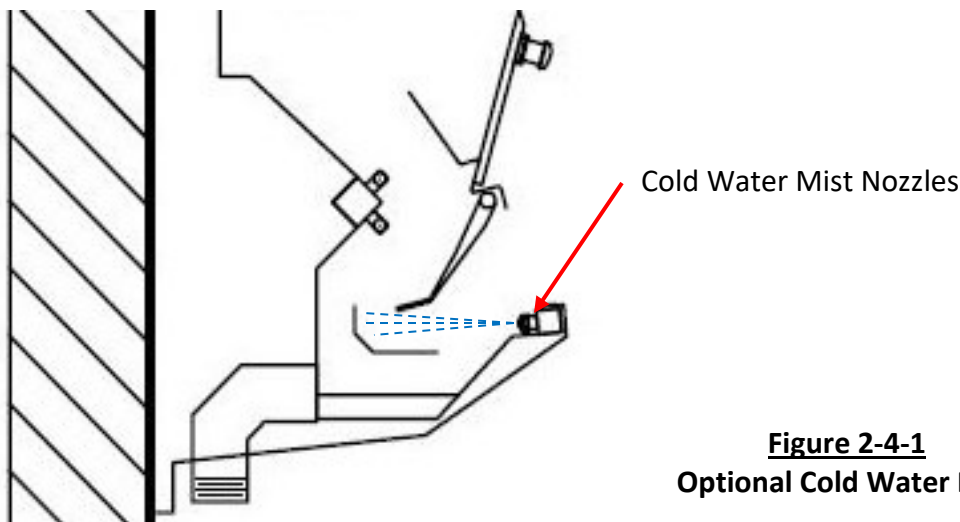
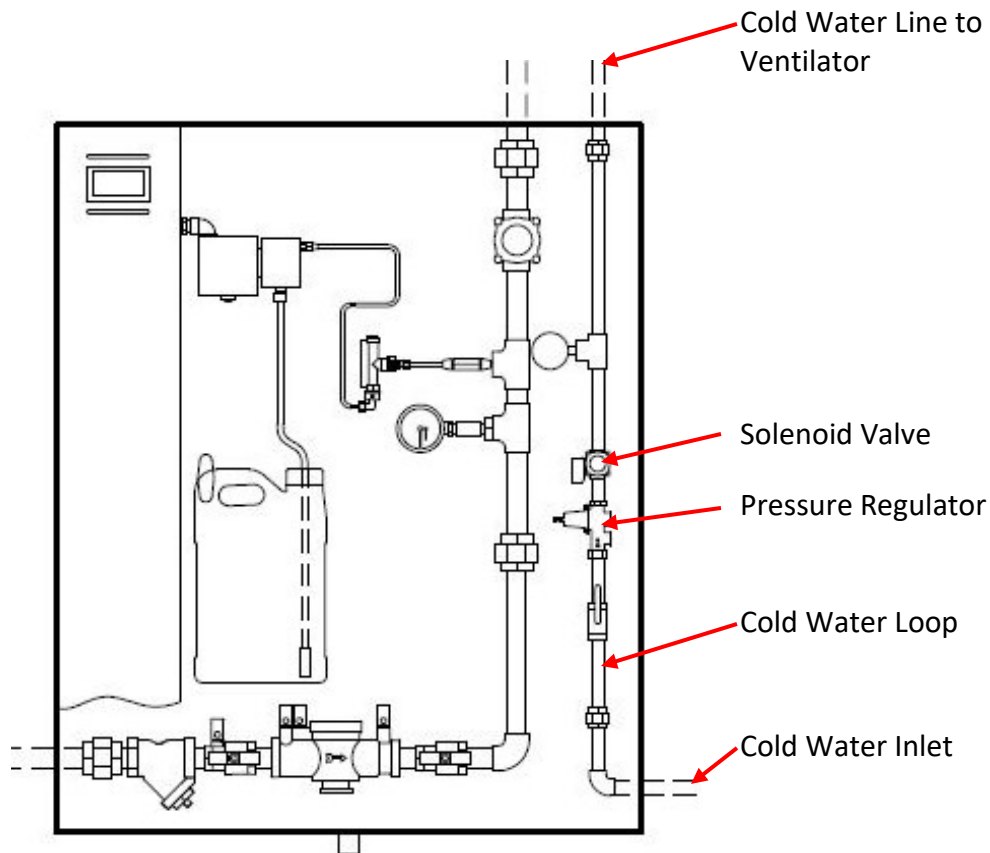

Figure 2-4-1
Figure 2-5-1
- CM** Addition of cold water manifold with spray nozzles at the air entry slot for application over solid fuel burning cooking appliances (Refer to Figure 2-4-1).
Continuous cold water mist ventilators incorporate a water manifold with spray nozzles, located at the lower edge of the air inlet slot (Refer to Figure 2-4-1). When the exhaust fan is started, the solenoid valve in the cold water loop in the Wash Control Cabinet opens (Refer to Figure 2-5-1), turning on the mist nozzles which remain on as long as the exhaust fan is on. The nozzles produce a very fine mist and are located so that the entire air stream passes through the mist.